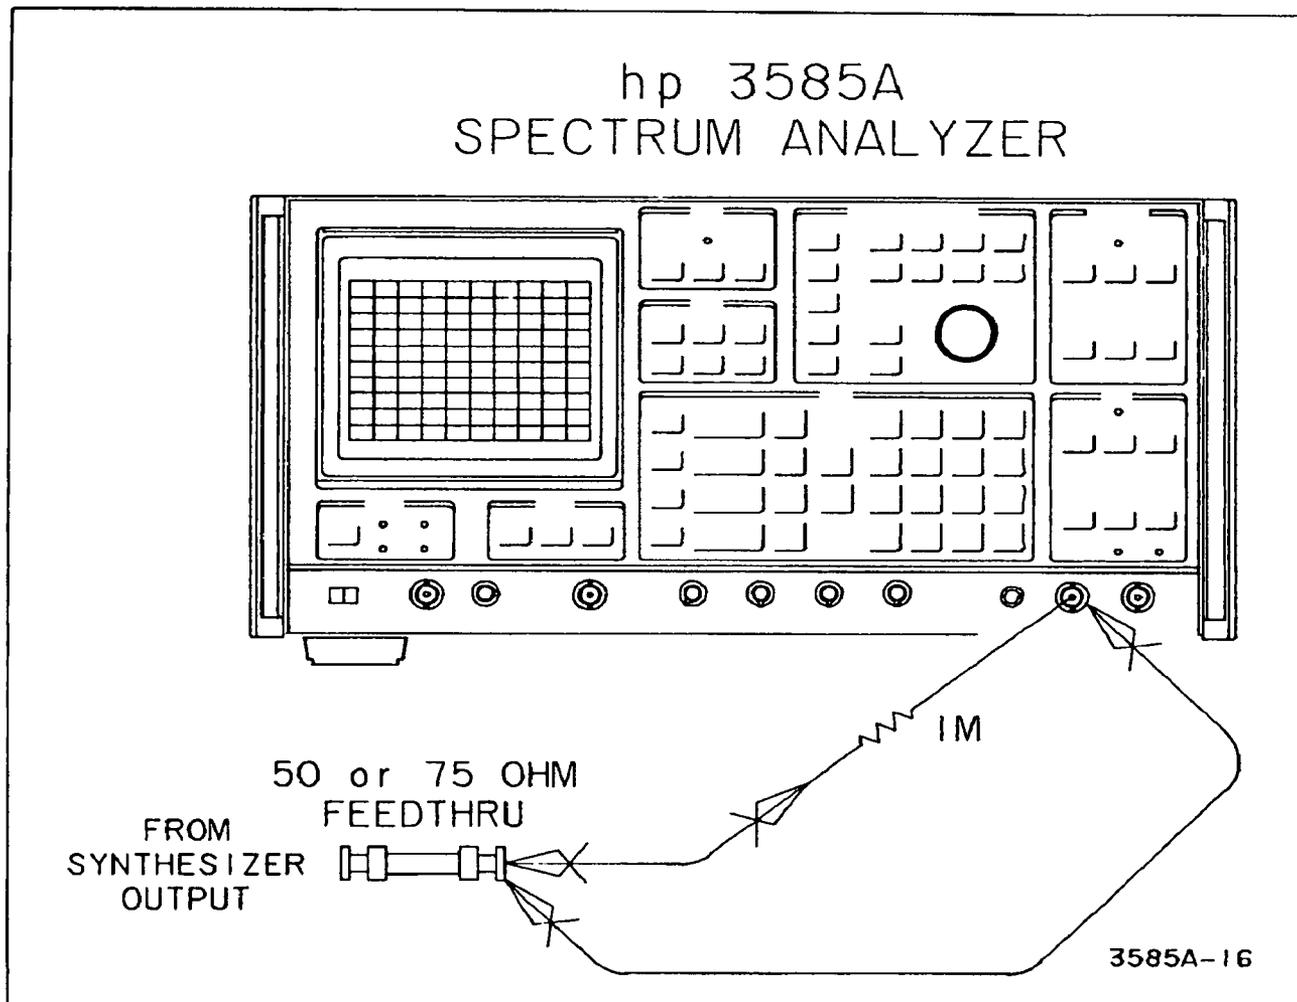

Figure 4-18. 1 M ohm Input Impedance Test.
e. Using short clip leads, insert the 1 MΩ resistor between the output of the termination and the 3585A 1 MΩ input as shown in Figure 4-18.